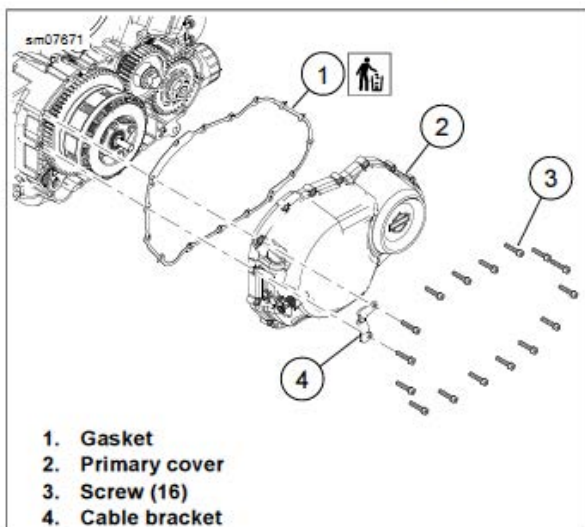

Figure 4-34. Primary Cover
1. See figure 4-34. Install primary gasket (1).
3. See figure 4-34. install primary cover (2).